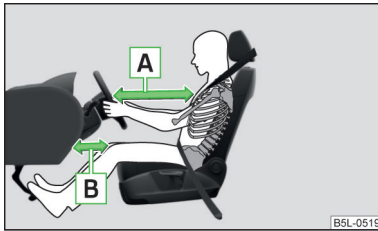

Fig. 103
- Adjust the steering wheel so that the distance **A** » Fig. 103 between the steering wheel and your chest is at least 25 cm. Adjust the distance of the legs to the circuit board in the region of the knee airbag in such a way that it is at least 10 cm **B**. If you do not comply with the minimum distance, this will mean that the airbag system will not protect you - hazard!